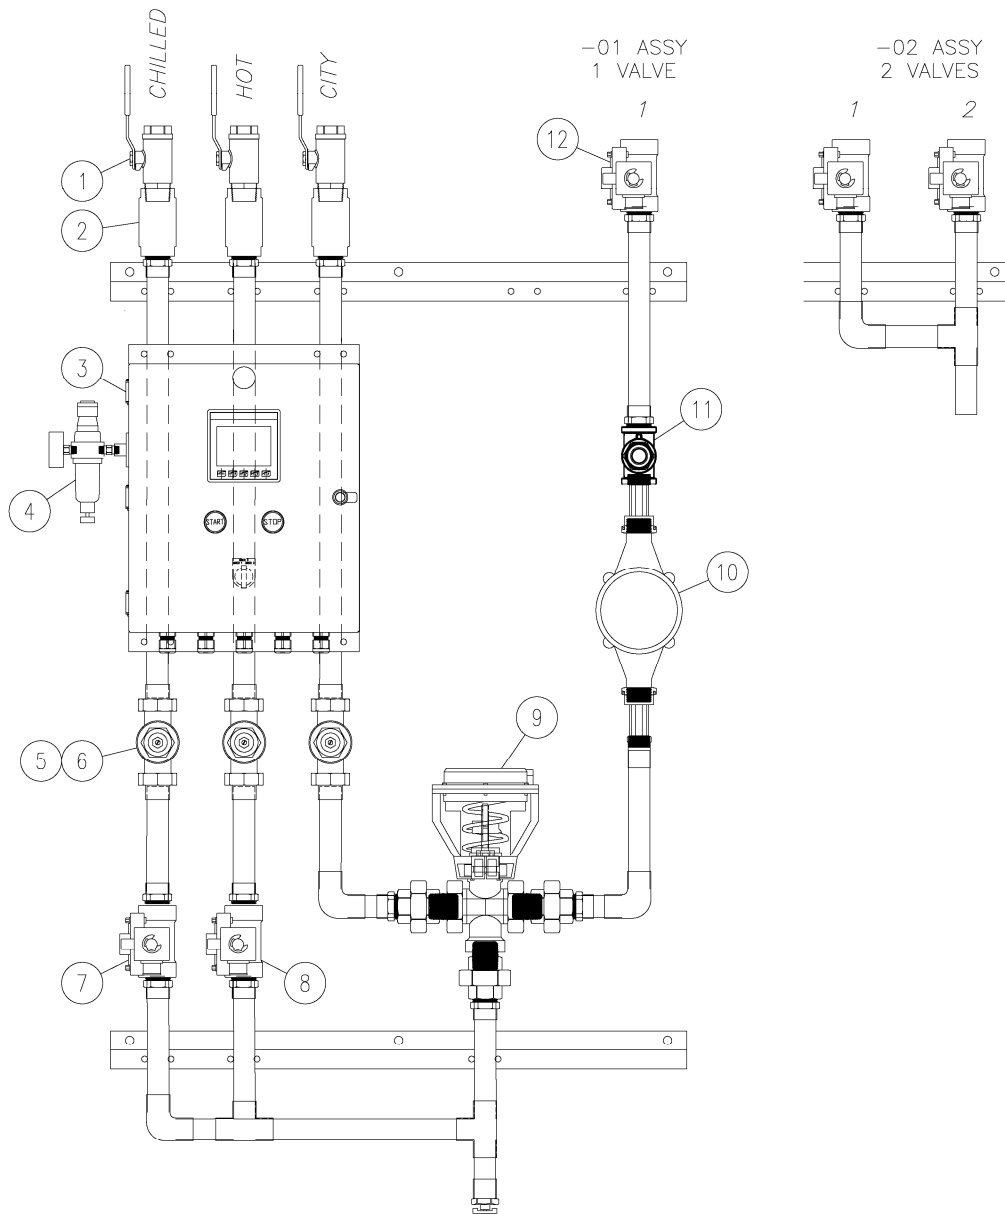

Figure 1 – Typical Pfening EBM Water Blender & Meter
The layout of the blending valves is shown in Figure 1 below. The three incoming lines are connected to the chilled, hot and city water positions respectively. Valves SV2 (6) and SV1 (7) enable either hot or chilled water. The proportional valve FCV1 (8) controls how much of either hot or chilled supply is added to the city water.
Referring to Figure 1, connect the water supply lines to the manual ball valves as shown in the figure. The chilled, hot, and city water lines *must* be connected as shown. The unit will not work properly if the water supply lines are connected differently. The ENVIRO-BLENDER METERING (EBM) SYSTEM is supplied with three water pressure regulators (5). All three of these regulators should be set to 60 psi max. These regulators help to balance out the water supplies before mixing. This helps ensure accurate mixing of different temperature water and accurate metering of the weight. The pressure settings are shown on the dial. The knob for the pressure setting is under a black protective plastic cap. The water check valves (2) will prevent back flow from one line to another in the case of pressure imbalance.